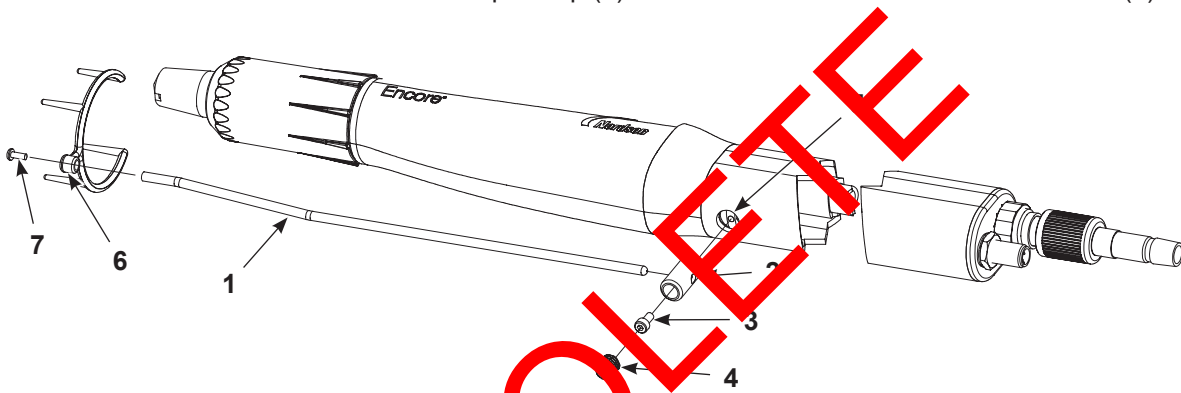

Figure 3-5 Ion Collector Installation - Tube-Mount Spray Gun (for clarity, some parts are not shown)
NOTE: The ion collector mounting hole must be installed towards the front of the spray gun as shown in Figure 3-5. If the ion collector hole is installed towards the far rear, it must be reversed to allow access to the grounding plate in the rear body assembly. If necessary, perform Steps 1- 7 of the tube-mount disassembly procedure on page 7-2 to remove the tube, then turn it around and reassemble the spray gun.
1. See Figure 3-5. Remove the plug from the mounting hole (5) if applicable.
2. Secure the post (2) to the grounding plate with the socket-head screw (3).
3. Insert the collector rod (1) into the post and secure it with the M10 x 10 nylon-tipped set screw (4).
4. Attach the multi-point tip (6) to the collector rod with the M3 x 8 screw (7).